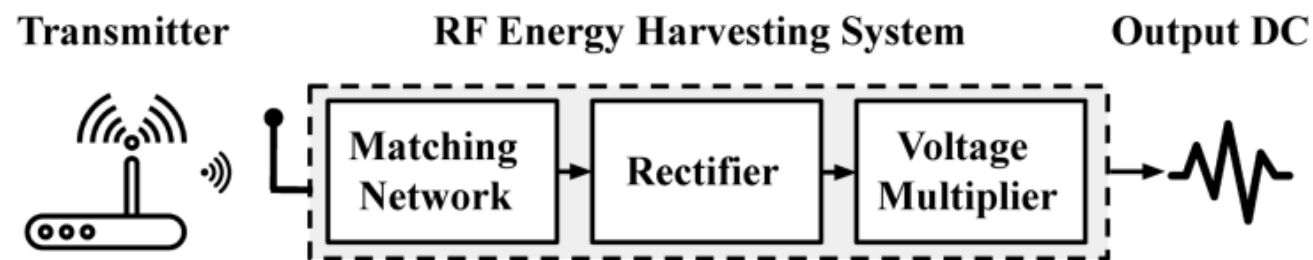

Figure 2: Workflow of RF energy harvesting.
Figure 2: The prototyped magnetolectric (ME) implant. The implant is shown on a fingertip to illustrate its miniaturized form factor. It integrates an ASIC chip, a ME transducer, and an energy storage capacitor onto the board with an 8.2-mm³ volume and a 45-mg weight.